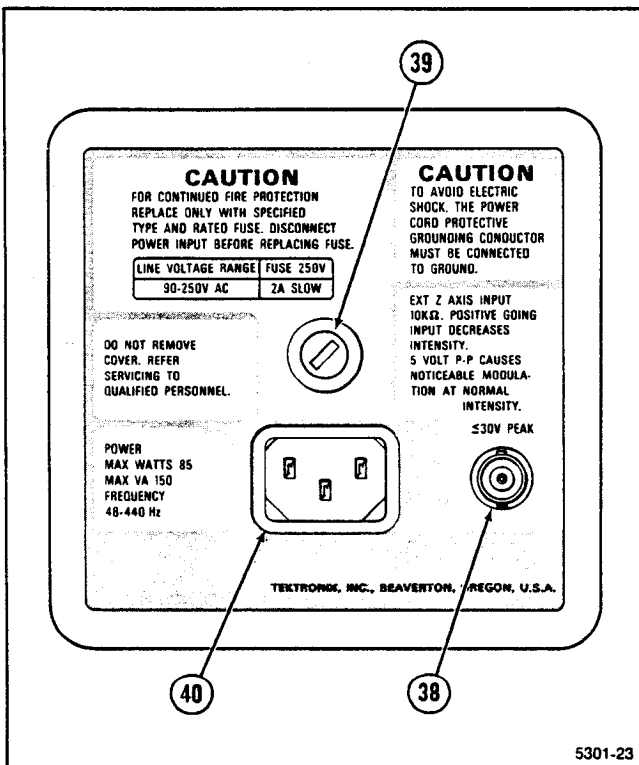

Figure 3-6. Rear Panel.
See Figure 3-6 for the location of items 38 through 40.